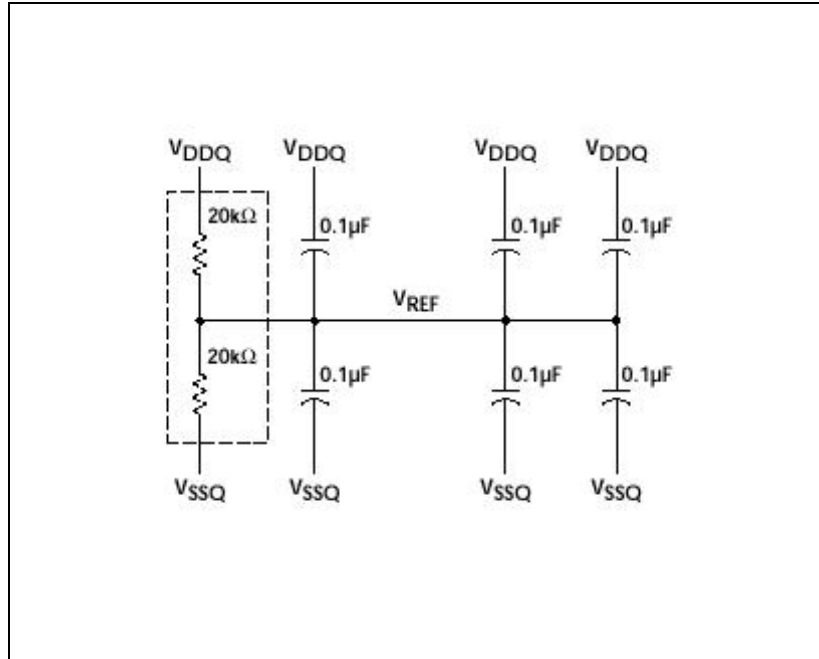

Figure 6 VREF Generation Scheme
- However, VREF (Voltage reference at +1.25V) is still required by the RC32438 processor as well as all DDR chips. Because VREF is usually generated by the LP2995, if the LP2995 is removed, an alternate source must be implemented. A simple divider bridge using 20K resistors in parallel with 0.1uF caps between +2.5V and GND can be used (see Figure 6).